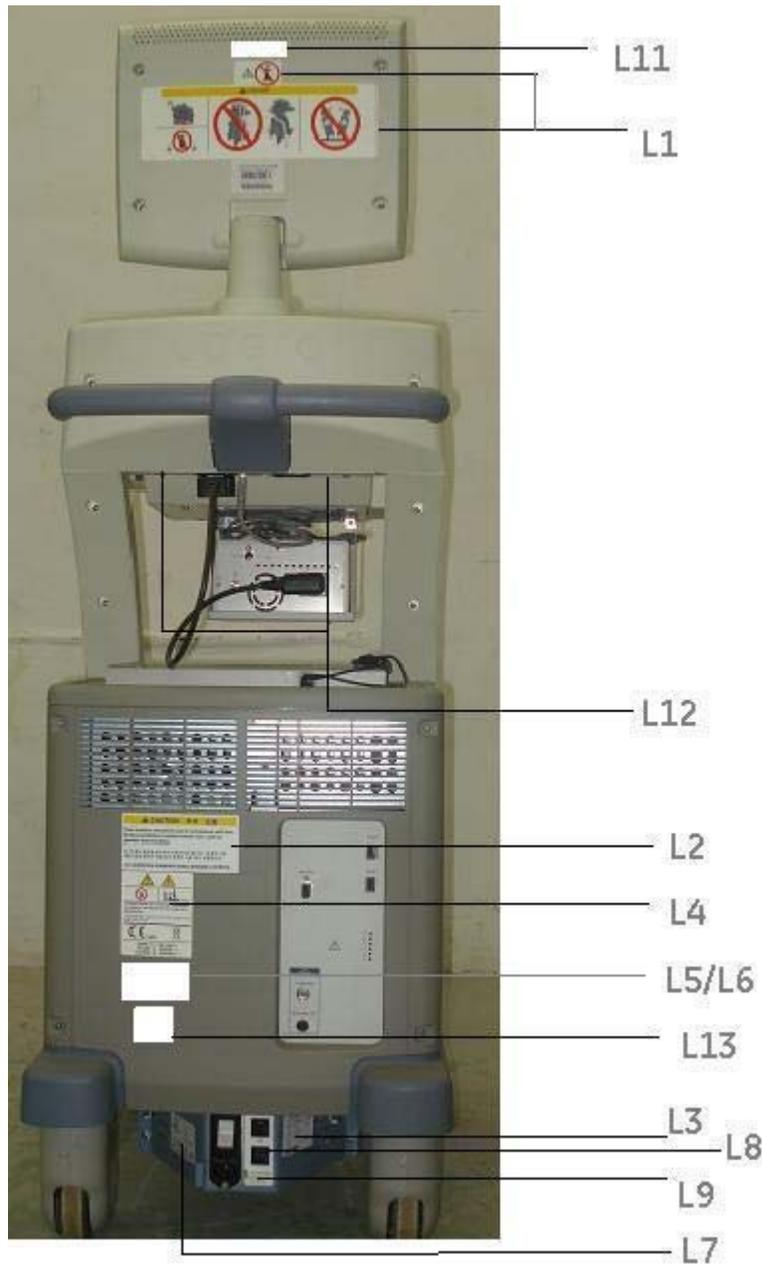

Figure 1-1 Label Location
- 5.) Concerning Outside Markings, refer to Figure 1-1 through 1-3.